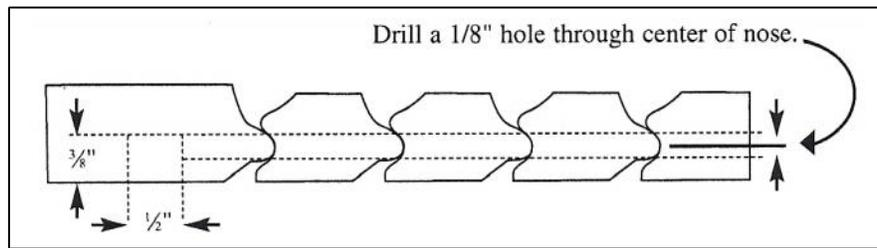

figure 4
- The lead strip requires the same 1/8" diameter hole to intersect a 1/2" diameter hole drilled to a 3/8" depth to hide the crimp sleeves on the ends of the cables as shown in figure 4. These 1/2" diameter holes get drilled in the back face of the lead strip. Make sure to drill the holes in the correct locations to match the slats, as the lead strip is narrower than the slats. You will need to compensate for that difference when locating and drilling the holes in the lead strip. You can add wood plugs to cover the 1/2" holes drilled in the back face of the lead strip.